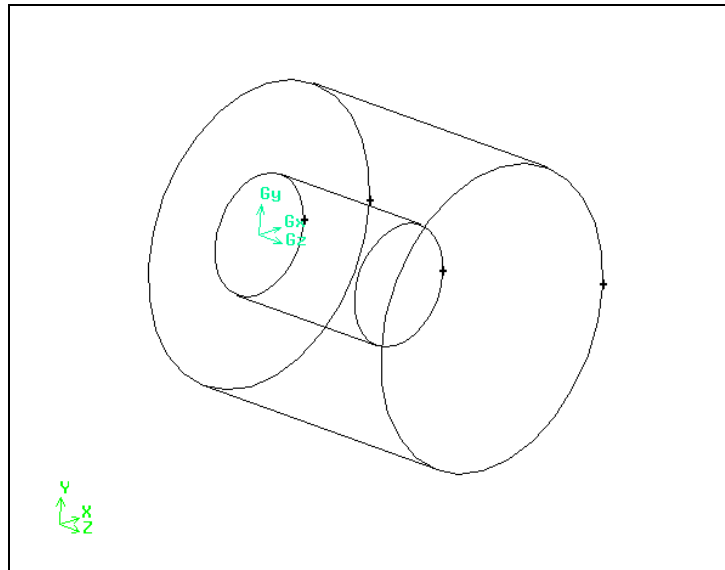

Figure 4-4: Two cylinders
*The two cylinders are shown in Figure 4-4. Hold down the left mouse button and move the mouse to rotate the view in the graphics window. You can zoom out from the current view by holding down the right mouse button and pushing the mouse away from you.*